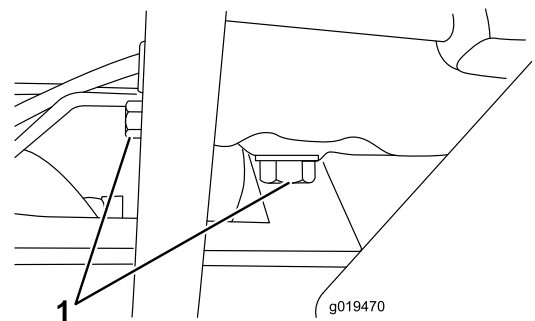

Figure 51
1. Remove the drain plug (Figure 51) and let oil flow into a drain pan. When the oil stops, install the drain plug.